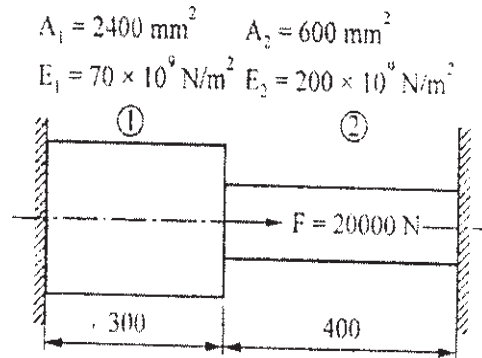

Fig. 2
- b) A stepped bar is as shown in the fig.2. An axial load $F = 20000\text{N}$ is applied as shown. Using the FEA method calculate the following [12]